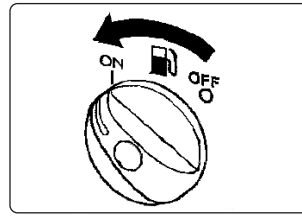

fig.7
- 6.3.3. Turn the fuel Knob to “ON” fig.7.